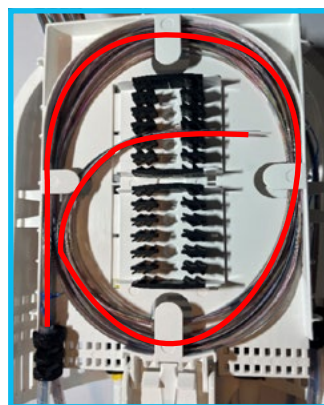

Figure 31
1. Fibres entering the left-hand side of the tray should loop 3 times (>1m) and enter the left-hand side splice protector holders from the top position down [Figure 31].